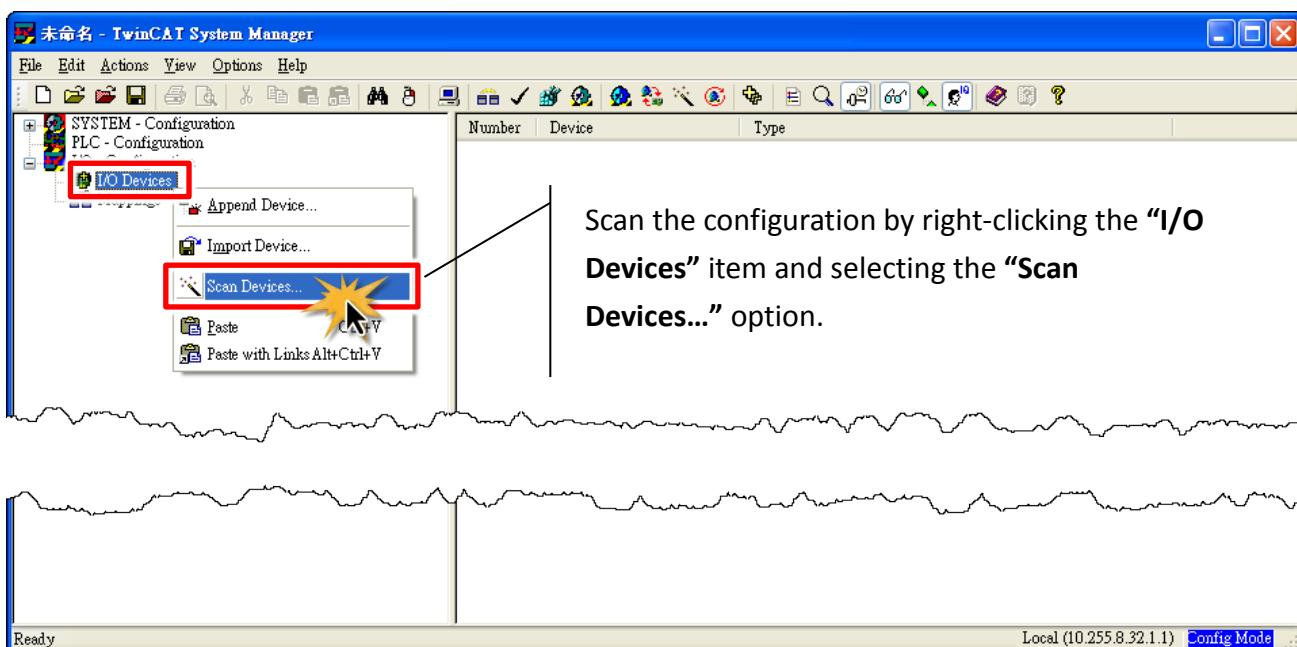

Figure 3-2.1
- ① Switch on the operating power supply, launch the TwinCAT System Manager (Config mode), and scan in the devices, as illustrated in the Figure 3-2.1 below.